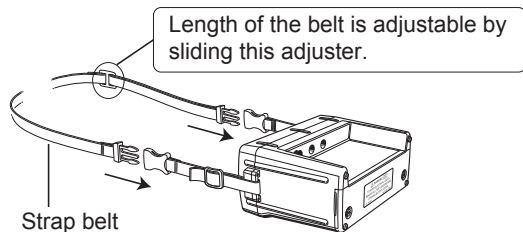

Fig.14-3
- (3) Attach the both ends of the Strap Belt to the Side Belt. (see Fig.14-3)